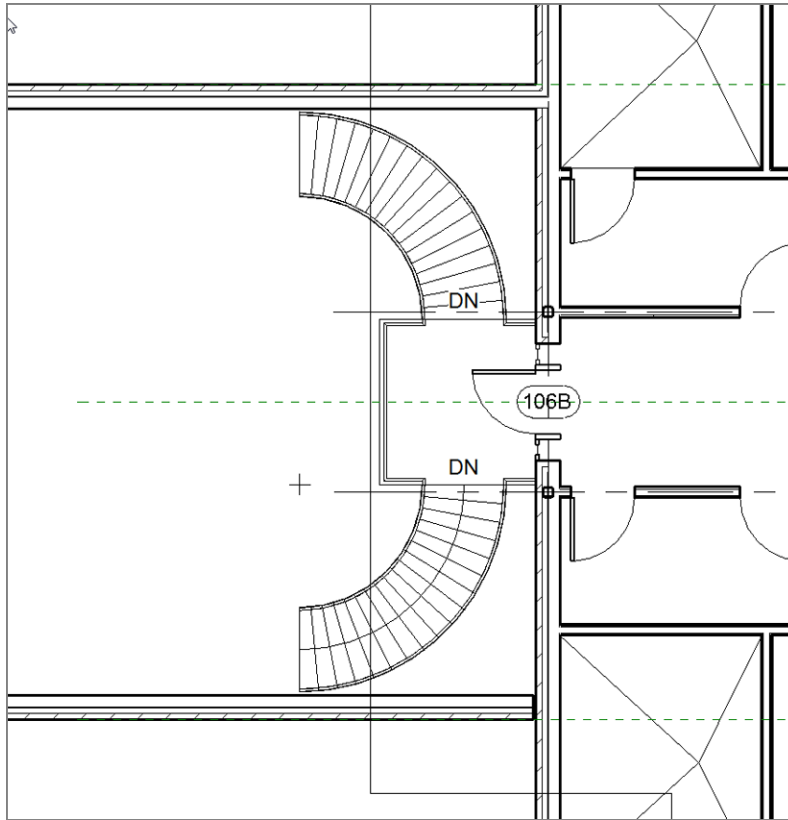

FIGURE 11.60: The area where the corridor meets the east wing
2. Zoom in on the area where the corridor meets the east wing, as shown in Figure 11.60.